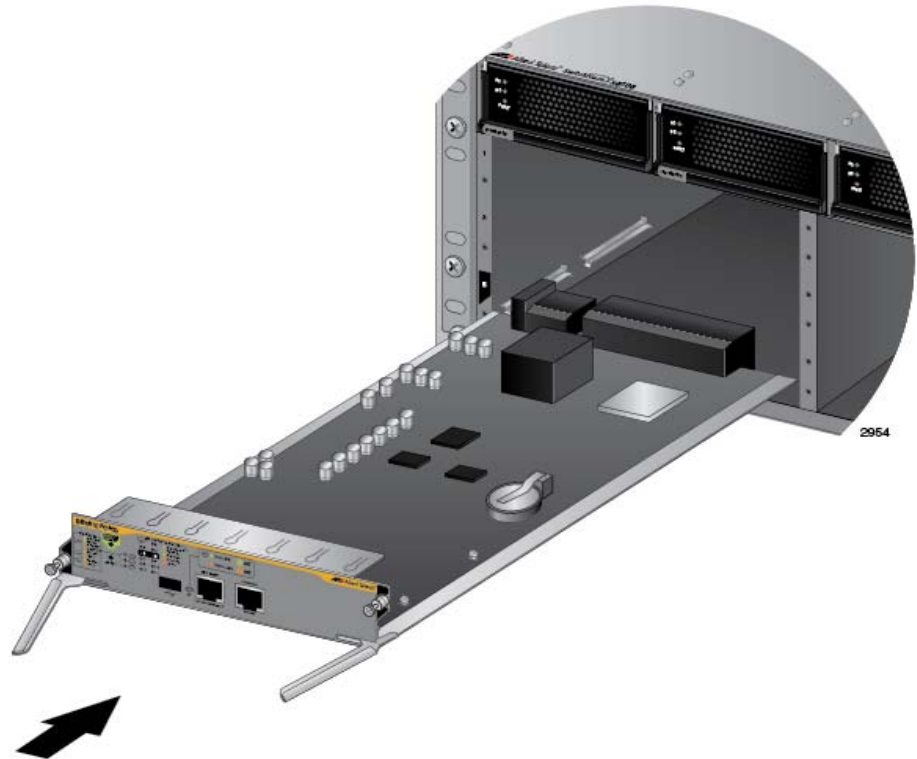

Figure 73. Aligning the AT-SBx81CFC400 Card in the Chassis Slot
6. Align the edges of the AT-SBx81CFC400 Controller Fabric Card with the internal chassis card guides in slot 5 or 6 of the AT-SBx8106 Chassis. Figure 73 on page 137 shows the AT-SBx81CFC400 Card aligned in slot 5.